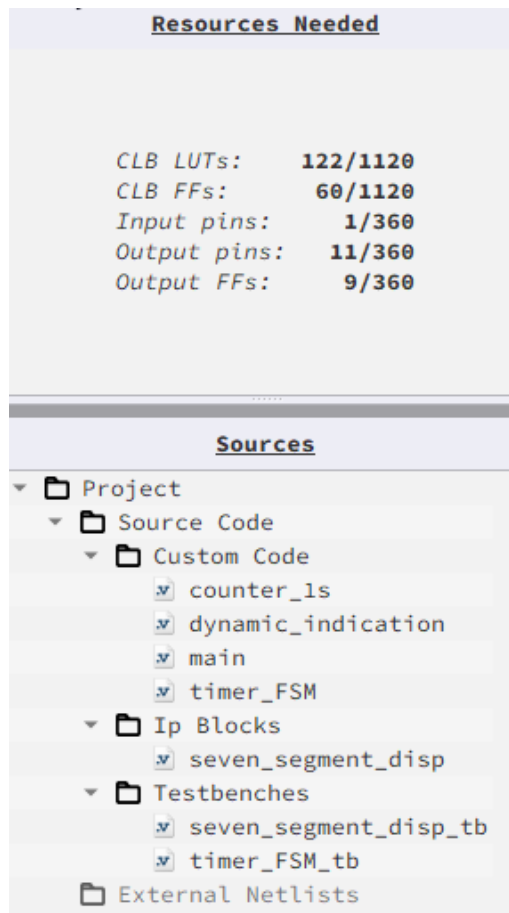

Figure 4: File structure and resources used
4. Open the FPGA editor and review the Verilog code. There is a main code with the module name seven_seg_counter, which is the top module defining the whole design. There are 3 sub-modules designed in this example along with an IP Block. All these sub-modules are integrated together to form the top module as function as intended (see Figure 4 for structure).